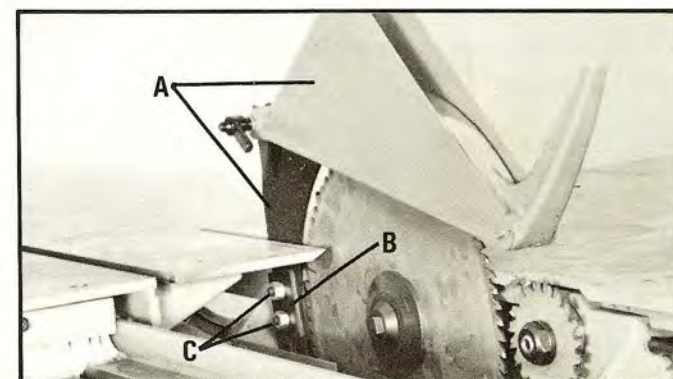

Fig. 31
Assemble the splitter and blade guard (A) Fig. 31, to the saw by sliding the splitter under plate (B) and tightening two hex nuts (C). The splitter should be positioned so that the gap between the saw blade and the leading edge of the splitter is as even as possible.